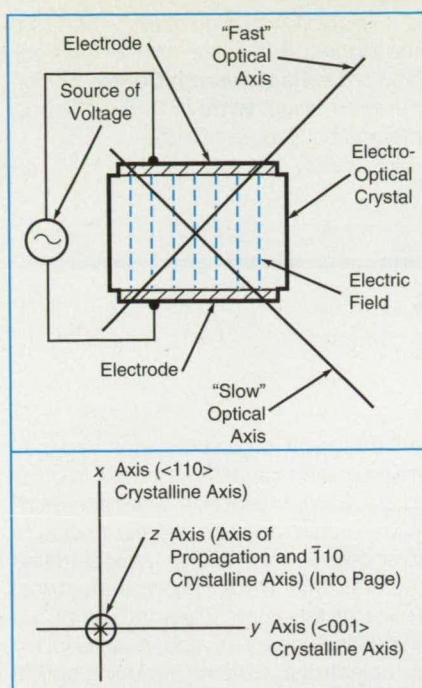

Figure 1. The **Optical Axes and Electric Field** in the crystal are oriented perpendicular to the direction of propagation of light in the crystal.
The active switching element in one of the improved switches is a rectangular parallelepiped crystal of bismuth germanium oxide, bismuth silicon oxide, or other material that has the following electro-optical characteristics (see Figure 1): (1) In the